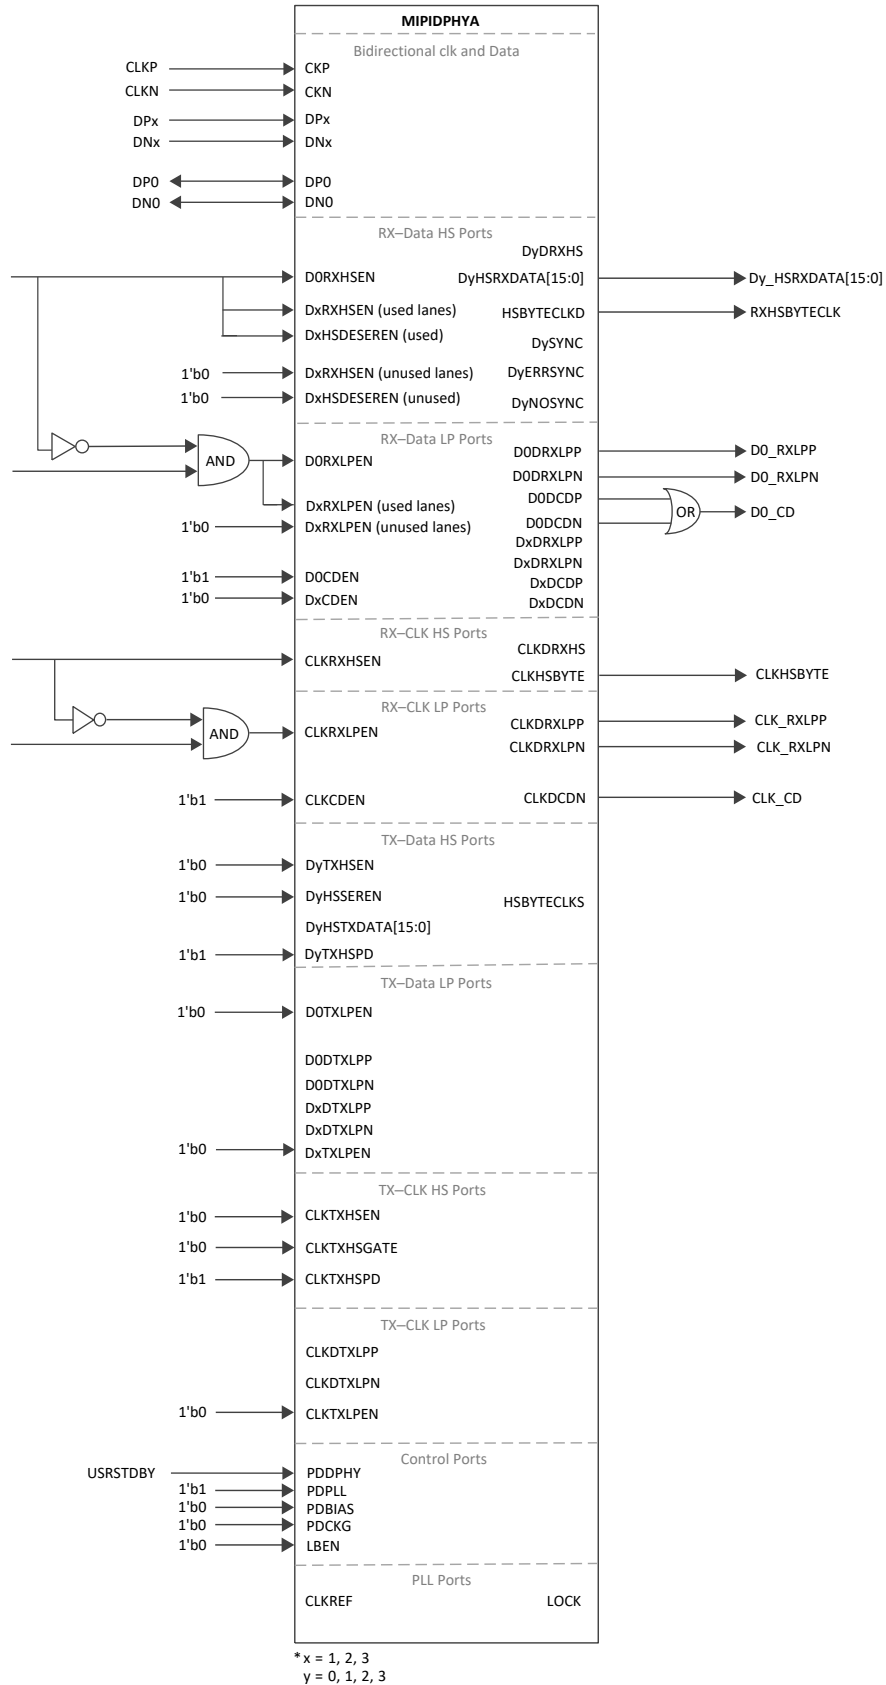

Figure 5.17. MIPI CSI2 Receive Interface with Hard D-PHY Module
- Figure 5.17 shows the signals connected to the fabric and the automatic settings when the hardened D-PHY is configured for CSI-2 receive mode. The Clarity Catalog user interface settings automatically powers down unused lanes of the hardened D-PHY.
- Only D0 and CLK bits are used in LP mode. The key difference between CSI-2 and DSI is that the D0 signal is always an input in HS and LP modes, rather than bi-directional. D1, D2, and D3 pins (when those lanes are used) should be toggled between LP/HS mode based on D0 state as shown in Figure 5.17.